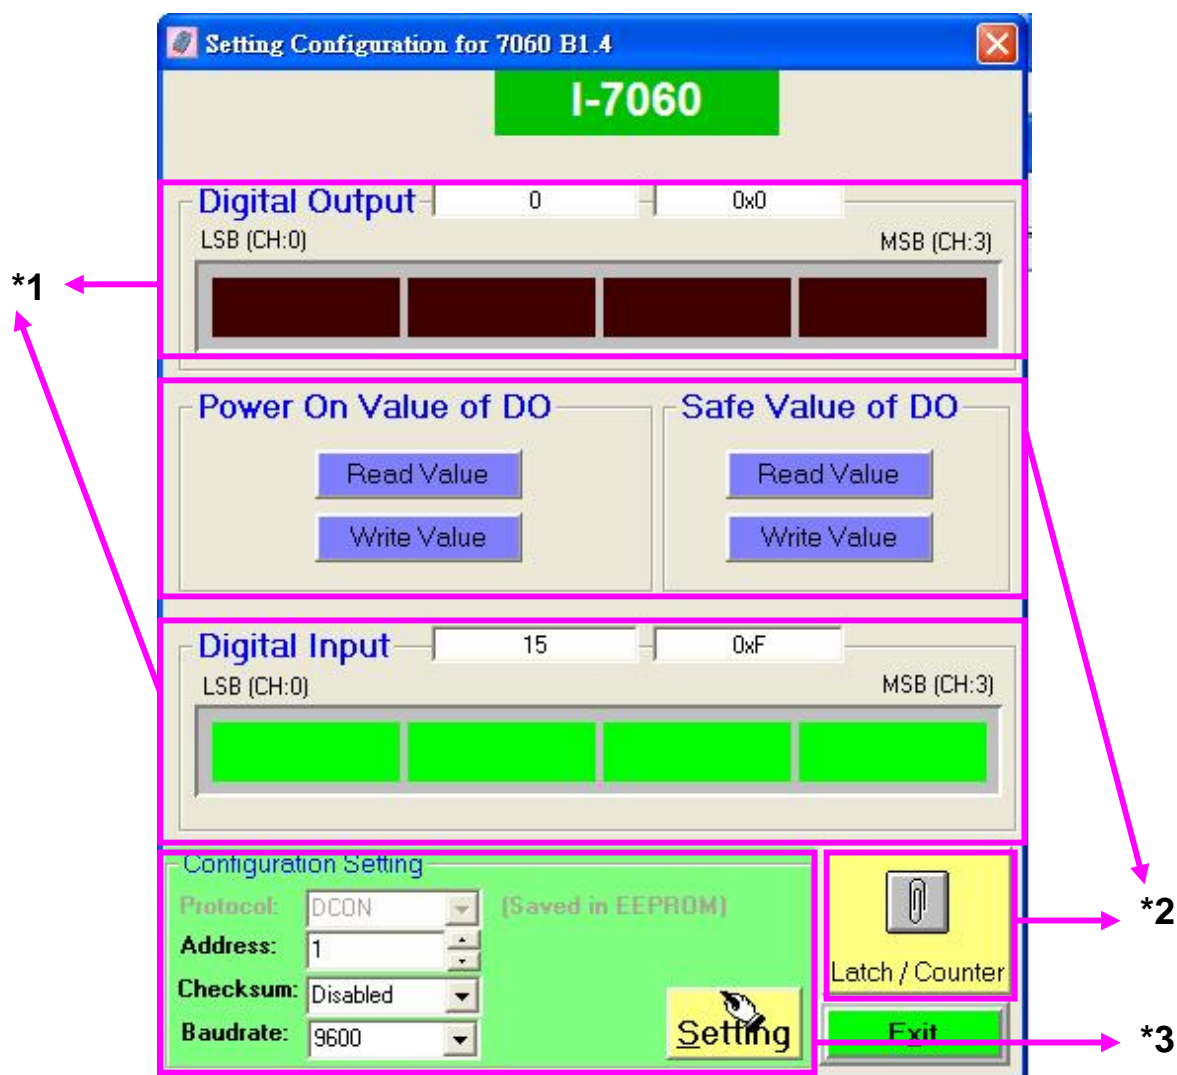

Figure 2-4
- Click the  button to stop searching, then double click the module name, shown as M-7060 in Figure 2-3. The dialog shown in Figure 2-4 will then open.
***1 Function test:** The LED buttons can be used to monitor the current DI status. Clicking the LED buttons will change the current DO status. Figure 2-4 shows that the current DI status of all 4 channels on the M-7060 is set to ON.